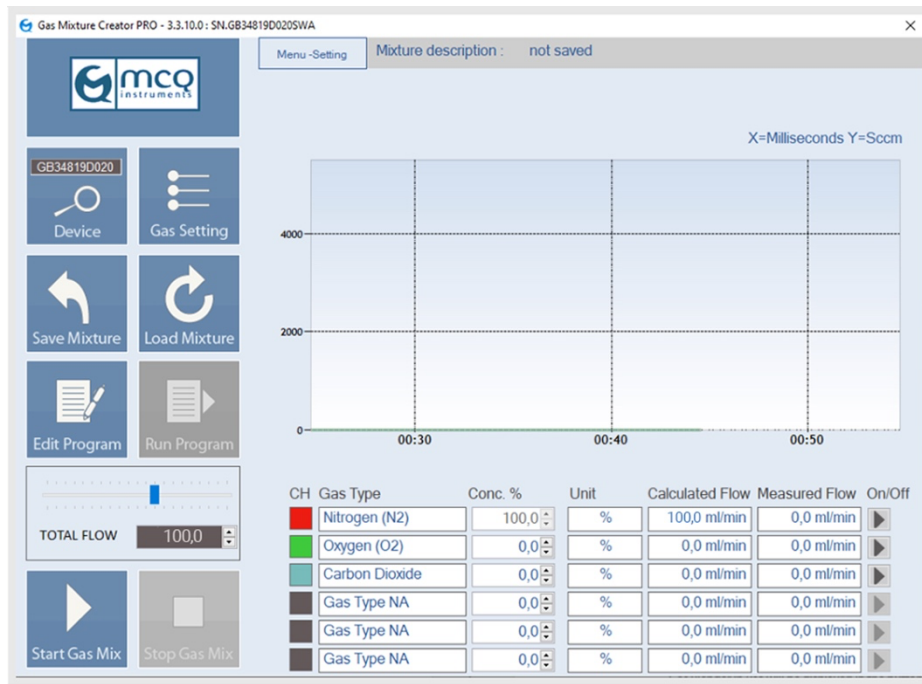

Figure 6-11
4. In case you have not done it before, connect the instrument to your PC with the USB cable provided in the package. The serial number of the Gas Blender in use will be displayed in the button "**Device**". (Figure 6-11)